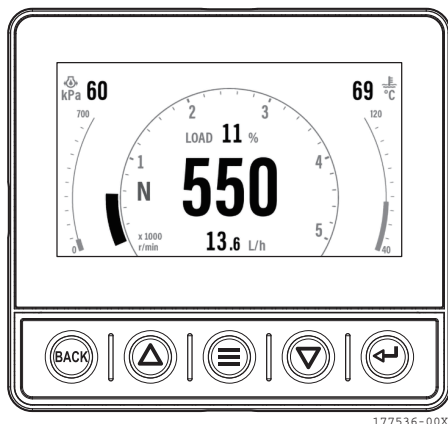

Figure 81
- When the engine starts, the VC30 display will show the screen with engine conditions (**Figure 81**).